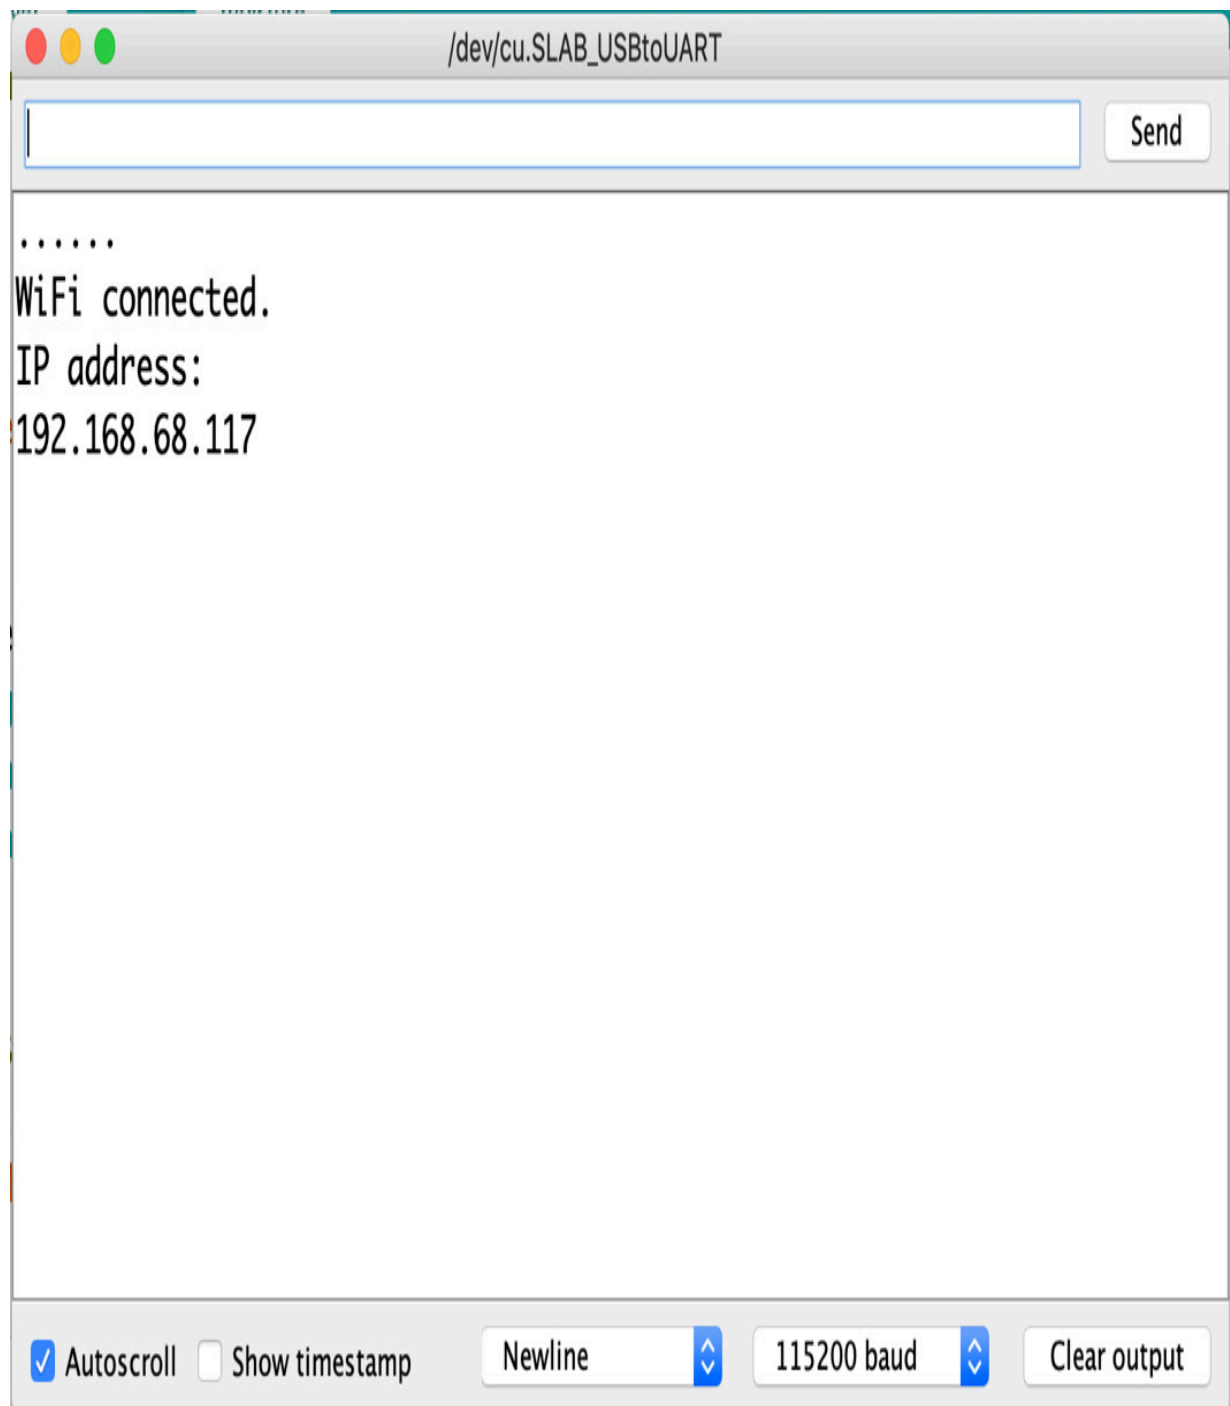

Figure 10.12 – IP address on the serial monitor
1. Open a web browser and go to the IP address of our server (see *Figure 10.12*). You should see our landing page to monitor our plant pot, as shown in the following screenshot: